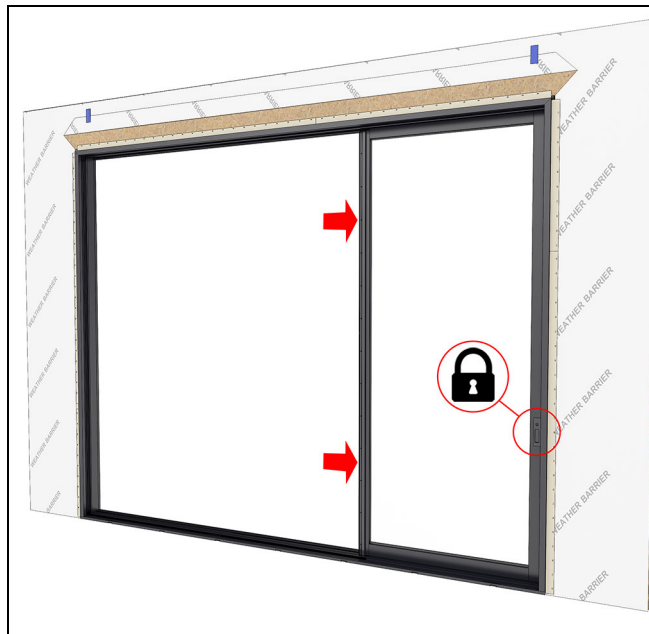

Figure 114
5. Close and lock the operator panel. See Figure 114.